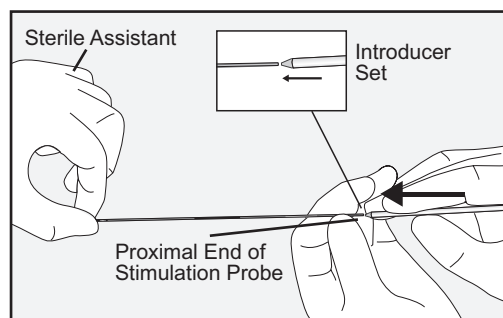

Figure 17: Slide Introducer Set Over Stimulation Probe
- Slide the pointed tip of the Introducer Set dilator over the proximal end of the Stimulation Probe (see Figure 17).